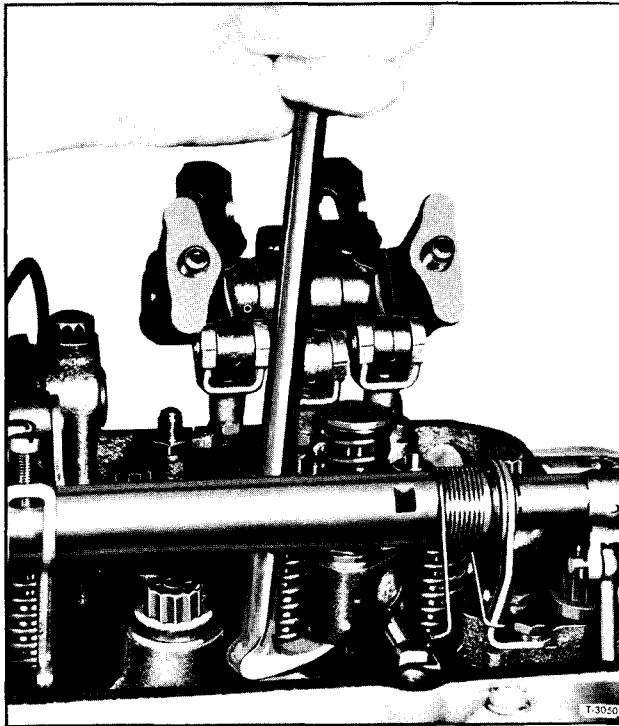

Figure 16—Removing Injector from Cylinder Head
4. Remove the two rocker shaft bracket bolts, rocker arm shaft and swing the rocker arm assembly away from the injector and valves. Install rocker arm shaft, rocker arms - bolts (fig. 16) to keep parts from being relocated.
7. Free the injector from its seat and lift it from the cylinder head (fig. 16).